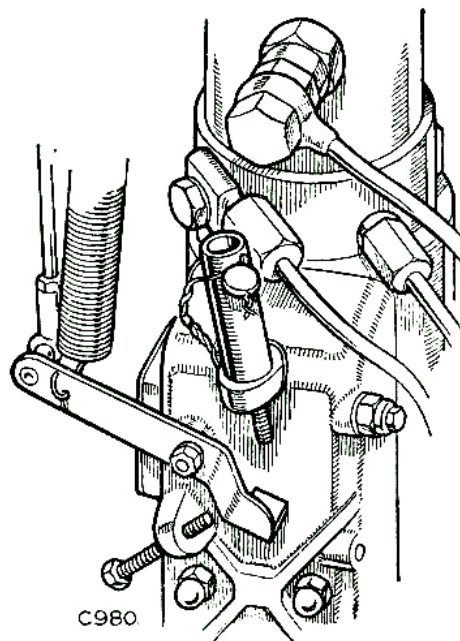

Fig. M-30—Control screws adjusted and sealed.
- (e) When maximum engine speed of 3,650 r.p.m.  $\pm 20$  has been obtained, tighten locknut, replace adjusting screw collar, wire and seal screw collar as shown at Fig. M-30.